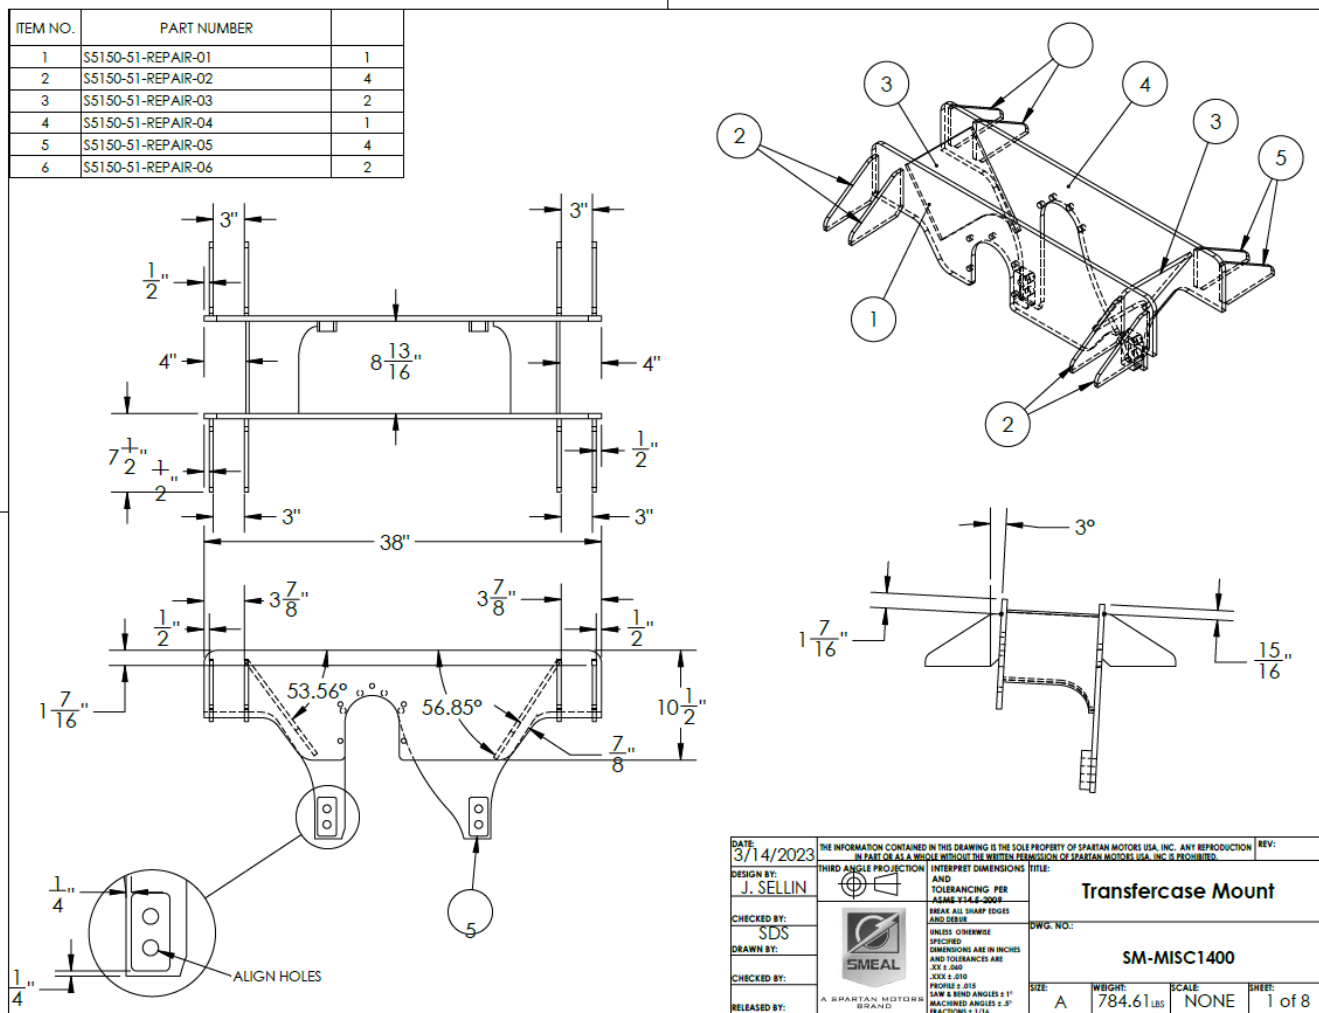

Figure 4.1
8. Install the forward pump transfer case mount in its rough position and bolt the pump transfer case to it. Be sure to use blue thread-locking compound and torque fasteners to the correct torques listed below. *Also see Figure 4.1*